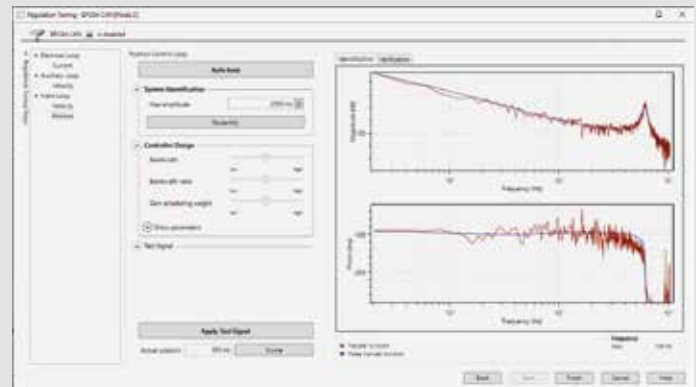

Figure 3 Example of a transfer function identified using EPOS4, with resonance.
- Experiment 2 is used to calculate the parameters for the main control loop and the notch filter. A PRBS signal (= Pseudo-Random Binary Sequence) is used to excite the plant. Based on the resulting input-output data, the transfer function is identified and presented as a Bode plot (see **Figure 3**).